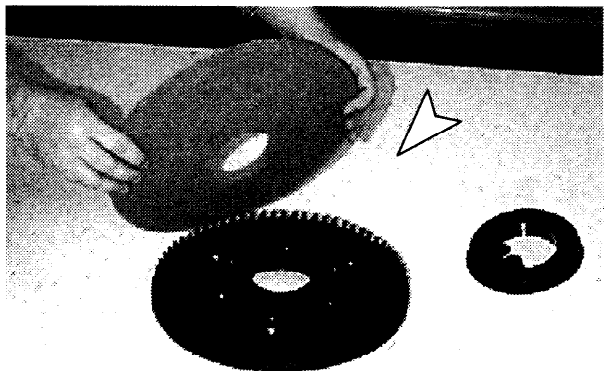

Figure 11
4. Attach pads to pad drivers before installing drivers. Secure pads with centerlock rings (Fig. 11).